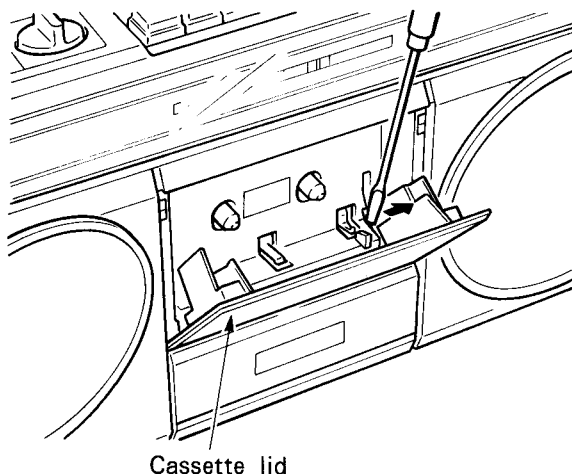

Fig. 1
1. Removing Cassette lid (Fig. 1)